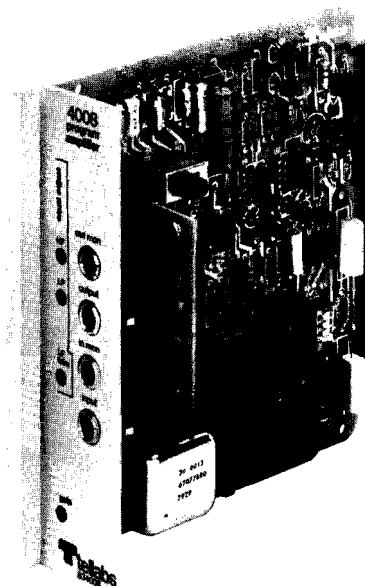

figure 1. 4008 Program Amplifier
1.01 The Tellabs 4008 Program Amplifier (figure 1) is a single-channel, wideband, low-distortion amplifier designed for use in program transmission applications. An integral amplitude equalizer provides switch-selectable, adjustable, precision equalization of nonloaded cable for 8kHz or 15kHz program circuits, with capability of greater than 30dB slope correction. With the equalizer removed (also by switch selection), the amplifier response is essentially flat (± 1 dB) from 20Hz to 20kHz.